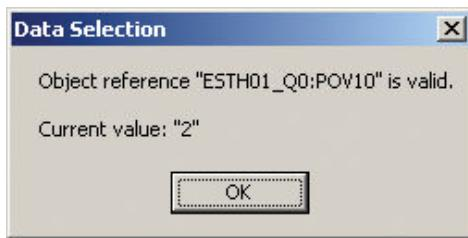

Figure 106: Validation notice for existing process object
3. Click the **Validate** button to check that the name was typed correctly and the process object exists, see Figure 106.